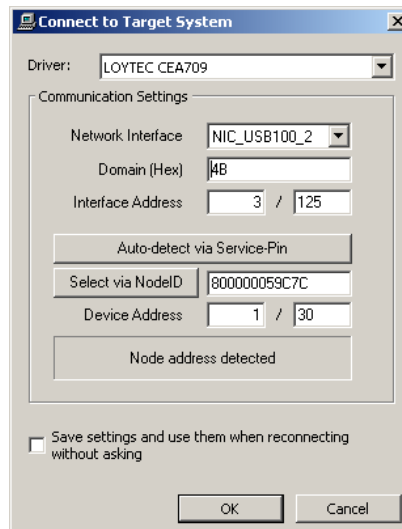

Figure 88: Connect via CEA-709
- **CEA-709:** Select the network interface to use and fill out all other fields, see Figure 88. Alternatively, select the network interface and press Auto-detect via Service-Pin. Then press the service pin on the LINX-110 device. Note that this connection method requires an installed LOYTEC network interface.